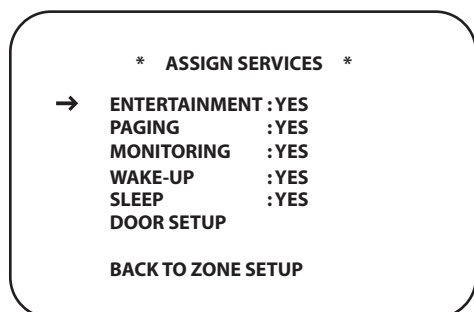

Figure 60.
1. From ZONE SETUP PAGE 1, with the cursor next to ASSIGN ENTERTAINMENT SERVICES, press the **Set Button 18**. The ASSIGN ENTERTAINMENT SERVICES screen will appear (Figure 60).